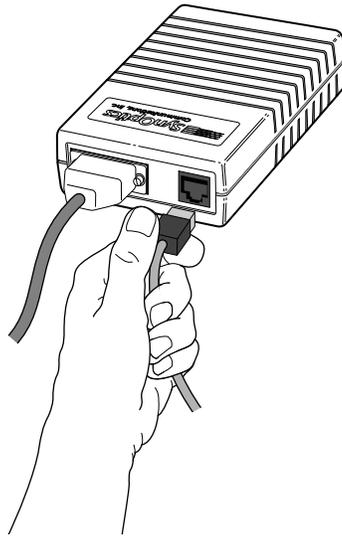
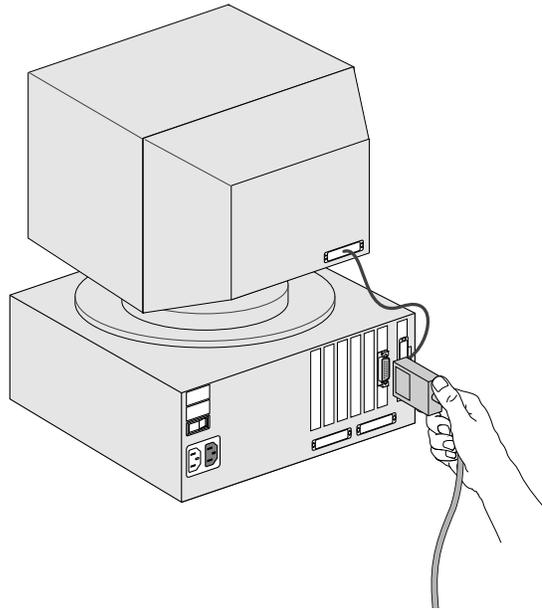

Figure 3-2. Connecting a Model 508A 10BASE-T Transceiver
Figure 3-3. Connecting a Model 928 Integrated 10BASE-T Transceiver
1. **Attach an AUI cable (e.g. Model 903A) from the interface card to the AUI port of an external 10BASE-T transceiver (e.g. Model 508A), as shown in Figure 3-2, or attach a SynOptics Model 928 Integrated Transceiver directly to the interface card (see Figure 3-3).**
2. **Connect a UTP patch cable (e.g. Model 910) from the RJ-45 port of the 10BASE-T transceiver to the RJ-45 connector of the wall outlet, or attach the captive cable on the Model 928 to the wall outlet (see Figures 3-2 and 3-3).**